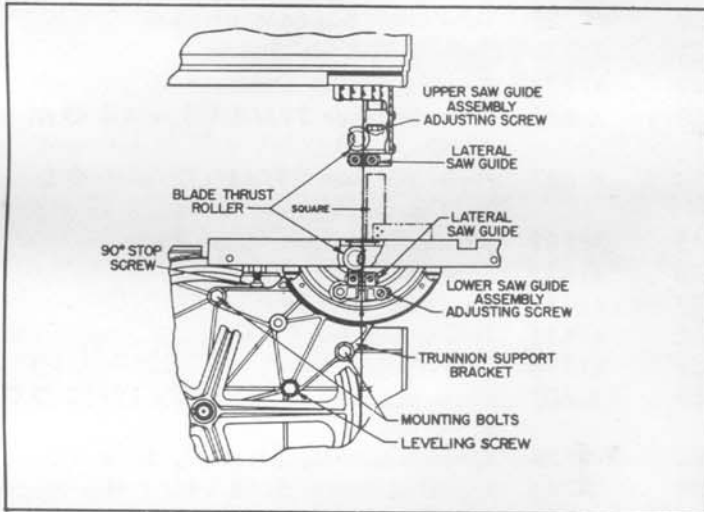
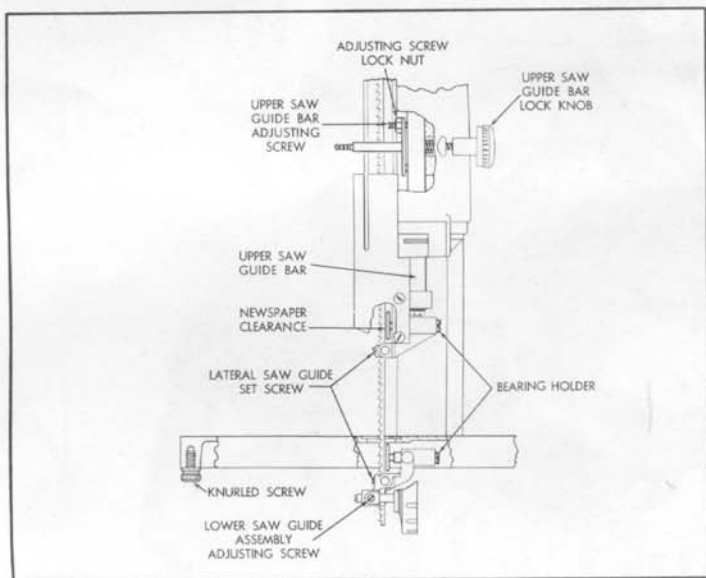

FIGURE 2
FIGURE 3
**IMPORTANT;** Place the 2 **mounting bolts**, No. 62, in the two holes of the **trunnion support bracket** and mount the **table and support bracket assembly** to the **frame** as shown in Fig. 2. Leave these 2 bolts **loose** enough to allow the entire assembly to be shifted.
With an accurate square resting on the table surface, see Fig. 2, square the table and mounting bracket assembly with the saw blade.
The leveling screw, Fig. 2, is provided for squaring the table to blade in opposite direction. If adjustment is necessary loosen hex cap screw, No. 87. Adjust leveling screw, No. 89, in or out until table is square with back edge of blade (use combination square). Re-tighten cap screw, No. 87.
The **blade thrust rollers**, as shown in Fig. 2, should be lubricated occasionally. Other moving and sliding parts such as the guide slide bar, No. 57, and table trunnions, Nos. 18 and 64, may require occasional lubrication to maintain smooth operation.
The **upper saw guide assembly**, Fig. 3, must operate so that the distance from the back of the saw blade to the thrust roller remains the same throughout the entire up and down movement of the assembly. If adjustment is necessary remove the cover and turn the **upper saw guide bar adjusting screw**, Fig. 3, either in or out as required. When adjustment is completed lock the **adjusting screw lock nut**, Fig. 3, to maintain adjustment.
Adjust the saw guide assemblies so that the **lateral saw guides**, see Fig. 2, when adjusted, will contact the blade on the solid portion only, not on the teeth or valleys between teeth. To do this loosen the **saw guide assembly adjusting screws** (Fig. 2) and move the saw guide assemblies forward or backward as necessary. Lock the saw guide assemblies in position.
The **blade thrust rollers**, as shown in Fig. 2, should be set the thickness of a piece of newspaper, see Fig. 3, from the back edge of the blade. Using a screw driver, turn the bearing holder, see Fig. 3, in or out until the roller is in the correct position. The blade should touch these rollers only when cutting, not when saw is running free.
The table should be square with the blade and at the same time the pointer indicate zero on the scale. If correction is necessary it may be made with an accurate square resting on the table surface and against the saw blade. Adjust the **90° stop screw**, see Fig. 2, until correction has been made.